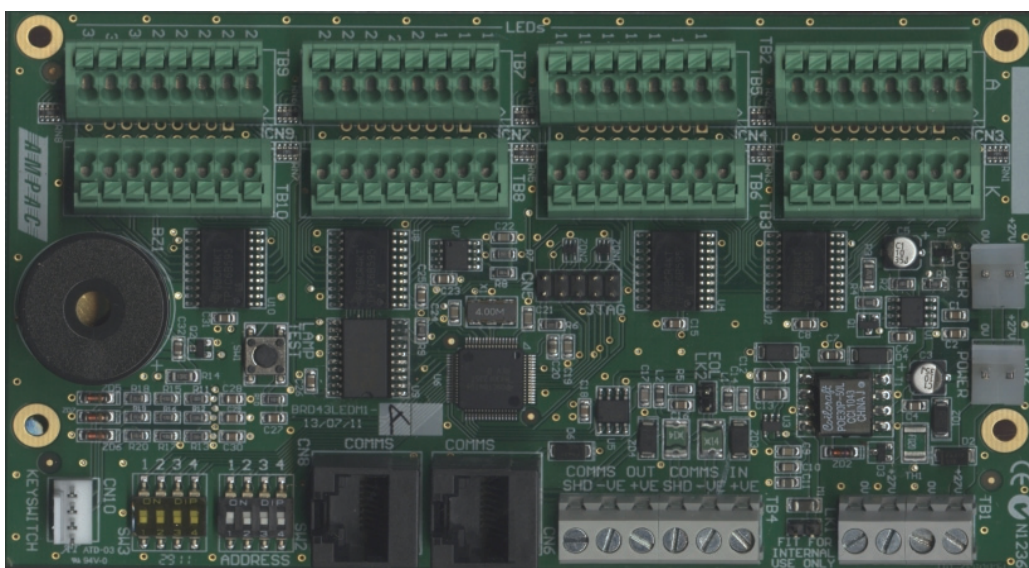

Figure 1: LED MIMIC BOARD (BRD43LEDM)
- 1 x BRD43LEDMX-A (NZ LED MIMIC BOARD (Fig 1))